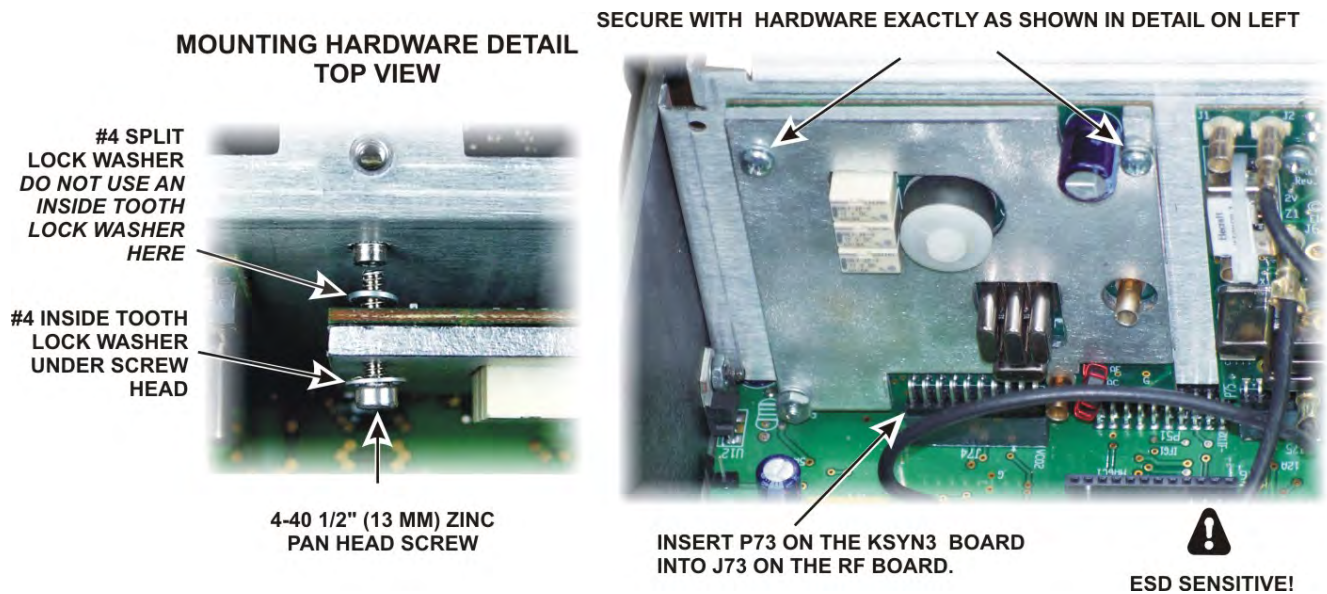
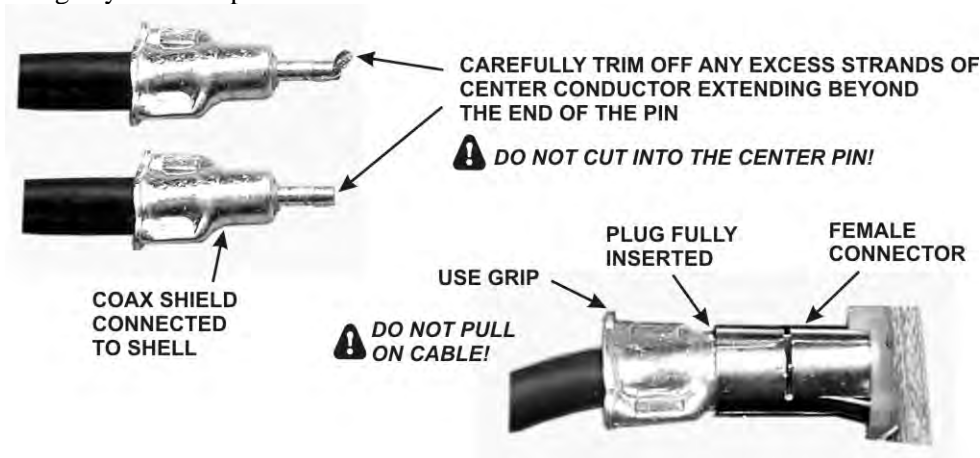

Figure 27. Installing the Aux KSYN3 Board.
Figure 28. TMP Cable Connectors.
□ Install the Auxiliary KSYN3 board on the back of the front panel shield between the KREF3 board and the side panel. Use the hardware exactly as shown in Figure 27. This is most easily done as follows:
☐ Locate the four coaxial TMP cables supplied and sort them by length. There are two 6" (15 cm) one 10" (25 cm) and one 12" (30 cm) cables. These are approximate measurements measured from the tip of one connector to the other. Check the cables as shown in Figure 28 to ensure there are no excess strands of the center conductor extending beyond the tip of the connector. .
☐ Plug one end of the 10" (25 cm) cable into J84 near the bottom of the auxiliary KSYN3 synthesizer board installed earlier (see Figure 27). When inserting or removing the TMP connectors, always handle the cable by the grip as shown in Figure 28. Never pull on the black coaxial cable itself. Be sure you connect it to J84 of the auxiliary KSYN3 board (the one nearest the side of the K3 shown in the figure) and not the main KSYN3 board. The other end of the cable will be connected later.